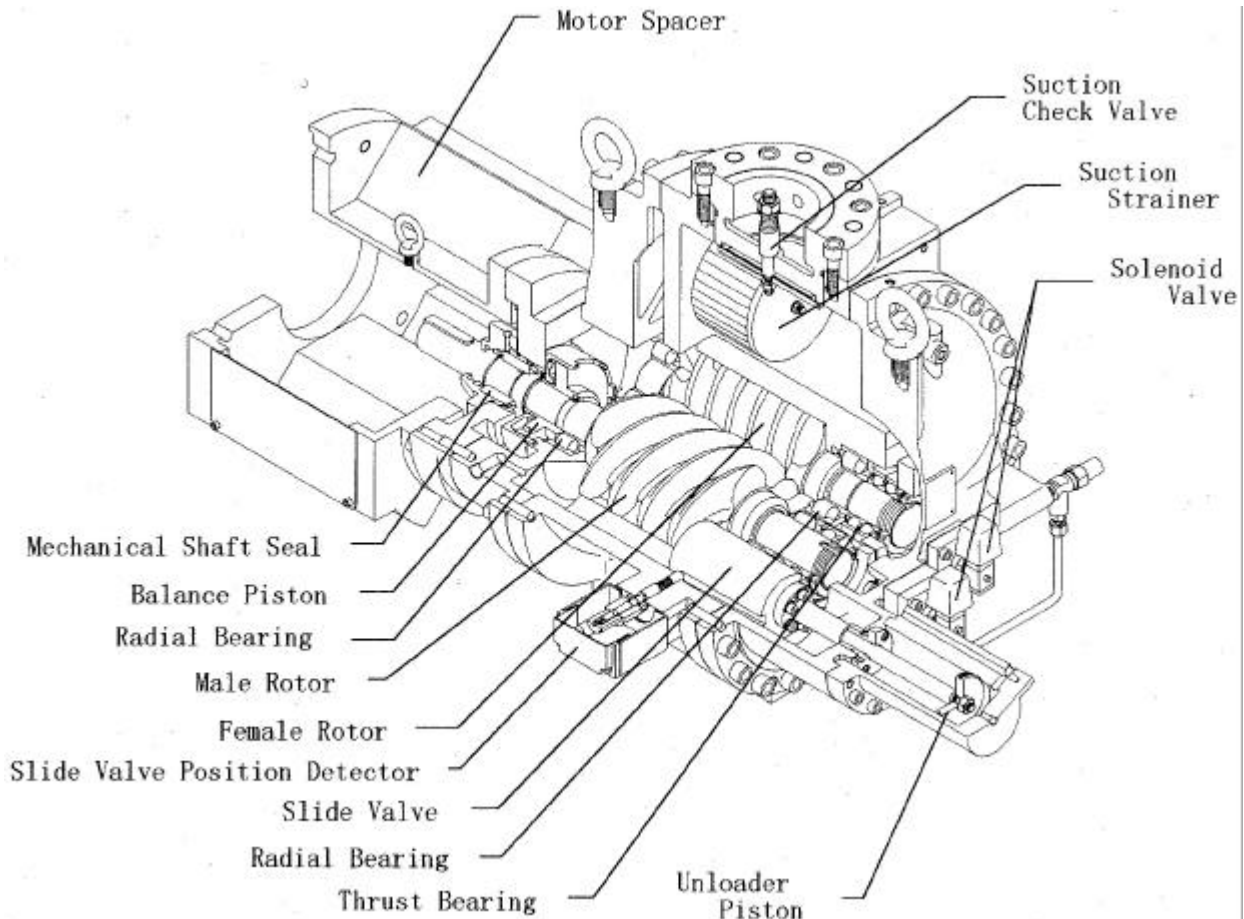

Fig. 2-1 General Structure of FM160
As shown in Fig. 2-1, male and female screw rotors having different lobe profiles are mounted in a casing. This is the main portion of the compressor which compresses the refrigerant. The rotor having four (4) convex lobes is termed the „male“ or „M“ rotor while the rotor with six (6) concave lobes is termed the „female“ or „F“ rotor.